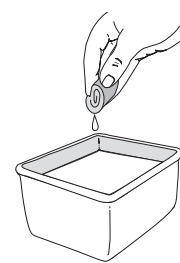

Fig. 22
- Wash the filter in detergent and water (Fig. 22). Rinse the filter thoroughly and allow it to dry.